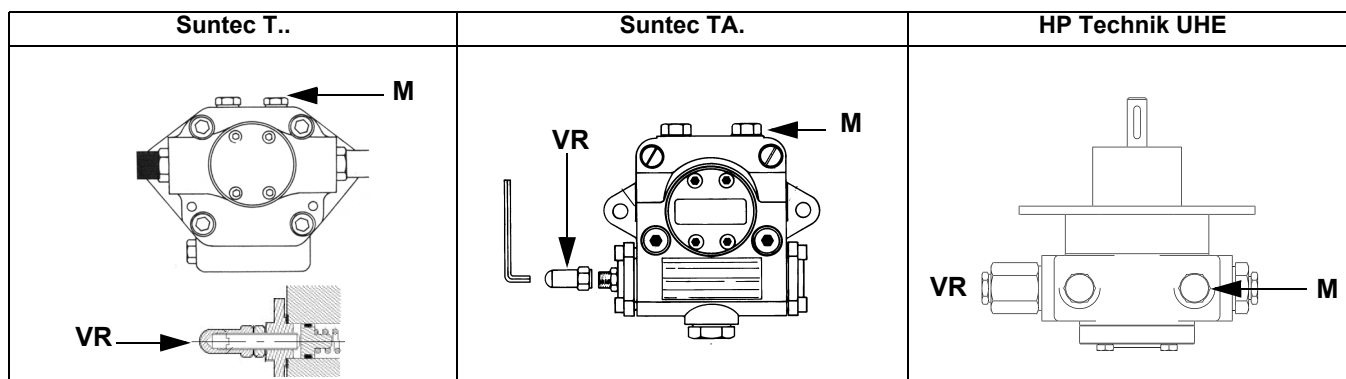

Fig. 9
- 3 bleed the air from the **M** pressure gauge port (Fig. 9) by loosening the cap without removing it, then release the contactor.
- 5 Only if necessary, adjust the supply pressure as follows (see related paragraph); insert a pressure gauge into the port shown on Fig. 10 and act on the pump adjusting screw **VR** (see Fig. 9) as to get the nozzle pressure at 20bar (Monarch or Fluidics nozzles - see page 43-38).